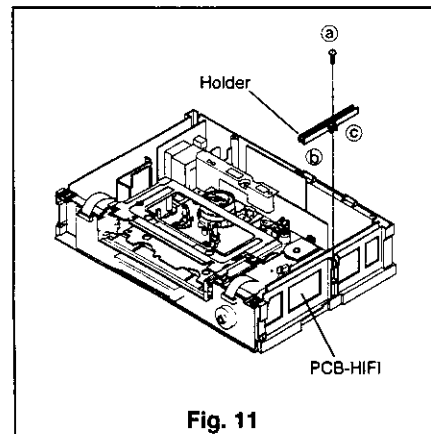

Fig. 11
- ② If it is necessary to remove the PCB-HIFI, comply with the following steps.
- (1) Remove a screw (a) and unfasten two snaps (b and c) as shown in Fig.11.
- (2) Disconnect the connectors ( HB , HC ) and raise the PCB-HIFI upward to remove it.